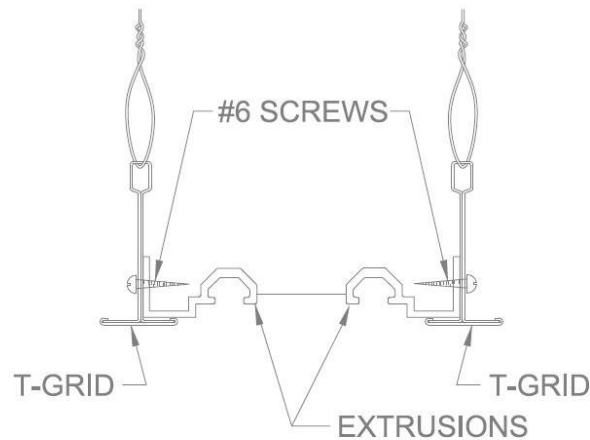

FIGURE 1
1. Position aluminum extrusions on the inside lip of the “T” grid as shown and attach with #6 self-drilling screws (included) 18” on center. **See Figure 1.**